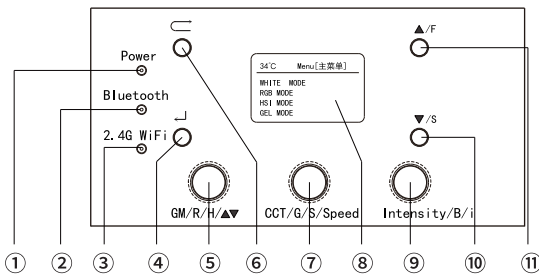
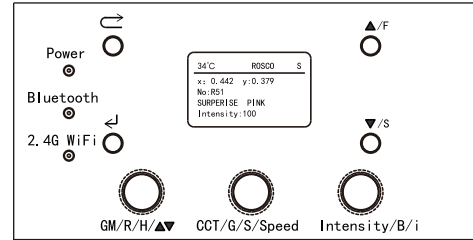

Fig.11 Control panel/main menu
Fig.16 ROSCO-R51 Surprise Pink
- ② Bluetooth LED
- ③ 2.4G WiFi LED
- ④ Enter key
- ⑤ GM/R/H/▲▼ Adjusting knob
- ⑥ Return key
- ⑦ CCT/G/Speed Adjusting knob
- ⑧ LCD
- ⑨ Intensity/B/i Adjusting knob
- ⑩ Button (Scroll down/slow to adjust)
- ⑪ Button (Scroll up/fast to adjust)
Remark: Fig.11 ⑤⑦⑨ The knob is multiplexing. Different modes have different functions.
- Users can use "↶" key (Fig.11 ⑥) to return to main menu;
- Through "GM/R/H/▲▼" Adjusting knob (Fig.11 ⑤) or "▲" button (Fig.11 ⑪) or "▼" button (Fig.11 ⑩) Select target options;
- Through "↵" key (Fig.11 ④) Enter target options.
In this mode, user can set "GM", "CCT", "Intensity" and other parameters by using the knob shown in Fig.11 ⑤ ⑦ ⑨ respectively. "x" and "y" shown in LCD (Fig.11 ⑧) are the reference color coordinate under the current parameter setting (quantitative calculation according to CIE 1931 xy coordinate):
In this mode, users can set and adjust the three light source components of R/G/B by using the knob shown in Fig.11 ⑤ ⑦ ⑨ respectively. "x" and "y" shown in LCD (Fig.11 ⑧) are the reference CIE 1931 color coordinate of the corresponding color of the correspondin color under the current parameter setting. The adjustment range of the three light sources of RGB is as follows:
In this mode, users can set H/S/I and other parameters by using the knob shown in Fig.11 ⑤⑦⑨ respectively. “x” and “y” shown in LCD (Fig.11 ⑧) are the reference CIE 1931 color coordinate of the corresponding color under the current parameter setting. The adjustment range of H/S/I as follows:
S-2820 and S-2840 have built-in 20 commonly used filters (as shown in Tab. 4), which are from two famous filter companies named LEE and ROSCO. In this mode, users can quickly and conveniently find the appropriate lighting effect according to the use demand. After selecting the filter, the customer can adjust the brightness according to the use demand. The content (Fig. 16) shown in LCD (Fig. 11 ⑧) includes: "x" and "y" are the reference CIE 1931 color coordinate, filter number, name and current brightness of the corresponding color under the current parameter setting.
In this mode, we preset Police, Lightning, Candle, Scene Yellow, Scene Green, Scene Blue, HSI Demo, White Demo and other 8 scene modes. After the user selects the scene according to the usage requirements, they can adjust the Speed and Intensity through the knob Fig.11 ⑦/⑨).
In this mode, the user can adjust the knob shown in Fig.11 ⑤ to set according to the usage requirements, and the setting range is shown in Tab. 6